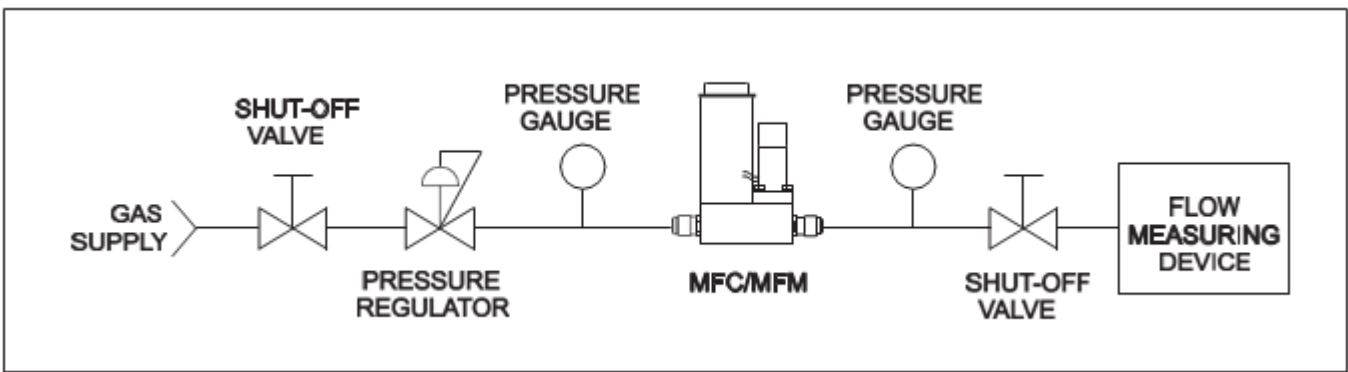

Figure 4-1 Bench Troubleshooting Circuit
1. Establish a proper connection between the Brooks Digital Series Mass Flow Meter or Controller (using Figure 4-1 as a reference) Switch on the power and allow the instrument to warm-up for 45 minutes. In case of a Controller model, adjust the Setpoint to zero. Do not connect the device to a gas source yet. Observe the output signal and, if necessary,